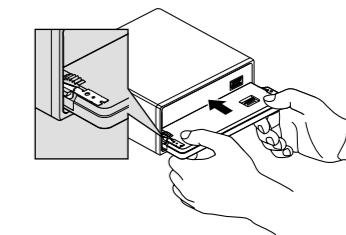

Fig. 11
**2. Replace the front panel to the unit. (Fig. 11)**